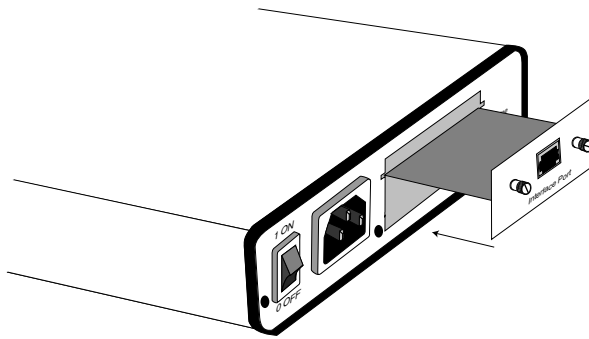

Figure 4-1. Installing the Interface Card.
3. While keeping the Card's faceplate parallel with the Campus Driver's rear panel, slide the Card straight in so that the card edge contacts line up with the socket inside the chassis. Refer to Figure 4-1 on the next page.